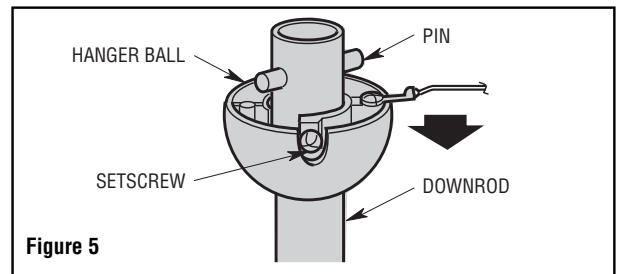

Figure 5
9. Remove the hanger ball by loosening the setscrew in the hanger ball until the ball falls freely down the downrod (Figure 5). Remove the pin from the downrod, then remove the hanger ball. Retain the pin and hanger ball for reinstallation in Step 12.